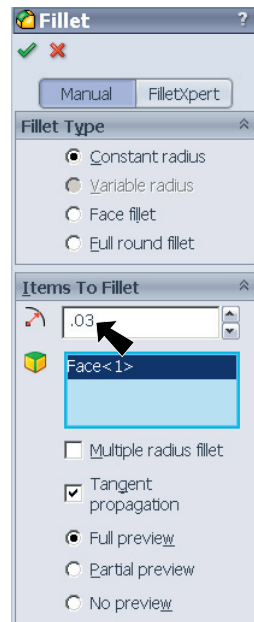

Fig. 5
- Step 3. Set the **Radius**  to **.03** in the Fillet Property Manager and click **OK** , **Fig. 5**.